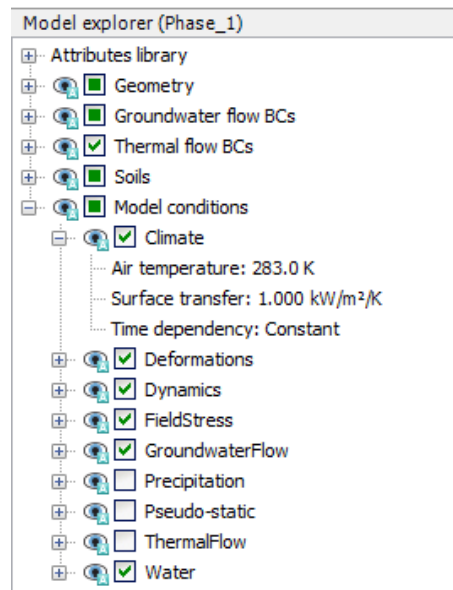

Figure 234: Model conditions for Phase_1
11. Set the **Air temperature** to 283 K and the **Surface transfer** to 1 kW/m²/K as shown in Figure 234 (on page 264).